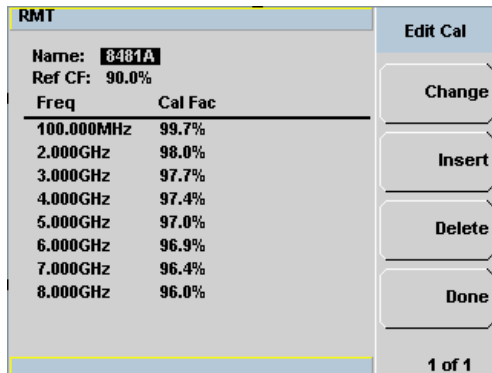

Figure 8-145 “Edit Cal” display
- 2 Choose the table you want to edit using the  and  keys. Press **Edit Table** to display the **Edit Cal** screen as shown in Figure 8-145.